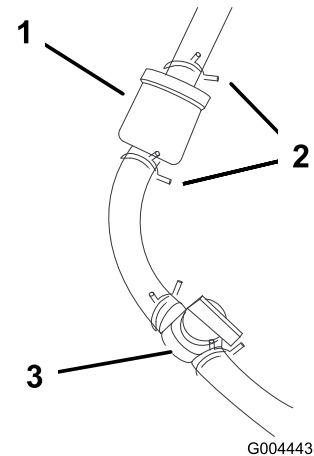

Figure 36
4. Close the fuel shut-off valve (Figure 36).
5. Squeeze the ends of the hose clamps together and slide them away from the filter (Figure 36).
7. Install a new filter and move the hose clamps close to the filter to secure the fuel line (Figure 36).